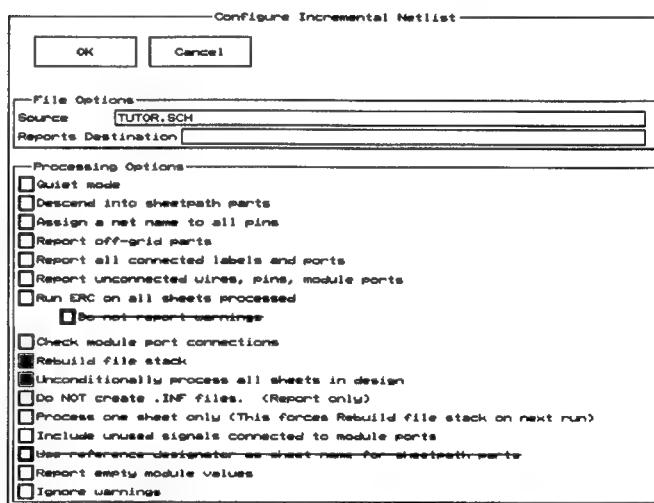

Figure 7-9. The Configure Incremental Netlist screen.
2. Select **Configure INET**. The **Configure Incremental Netlist** screen displays (figure 7-9).